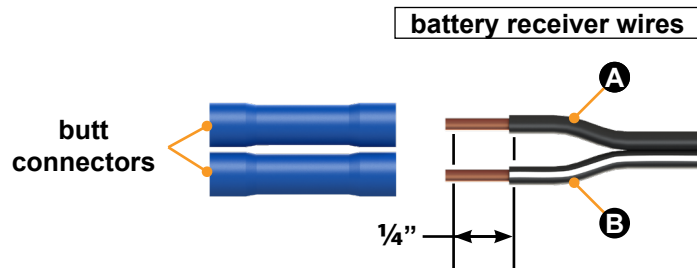

Fig.25
E. Use a crimping tool to crimp each butt connector's metal sleeve (green crimp area) onto the bare wire (Fig.25).
B. Start at one canvas corner and tightly pull and wrap the securing strap around the bimini top strut and snap in-place (Fig.25). Repeat procedure as necessary for each securing strap.